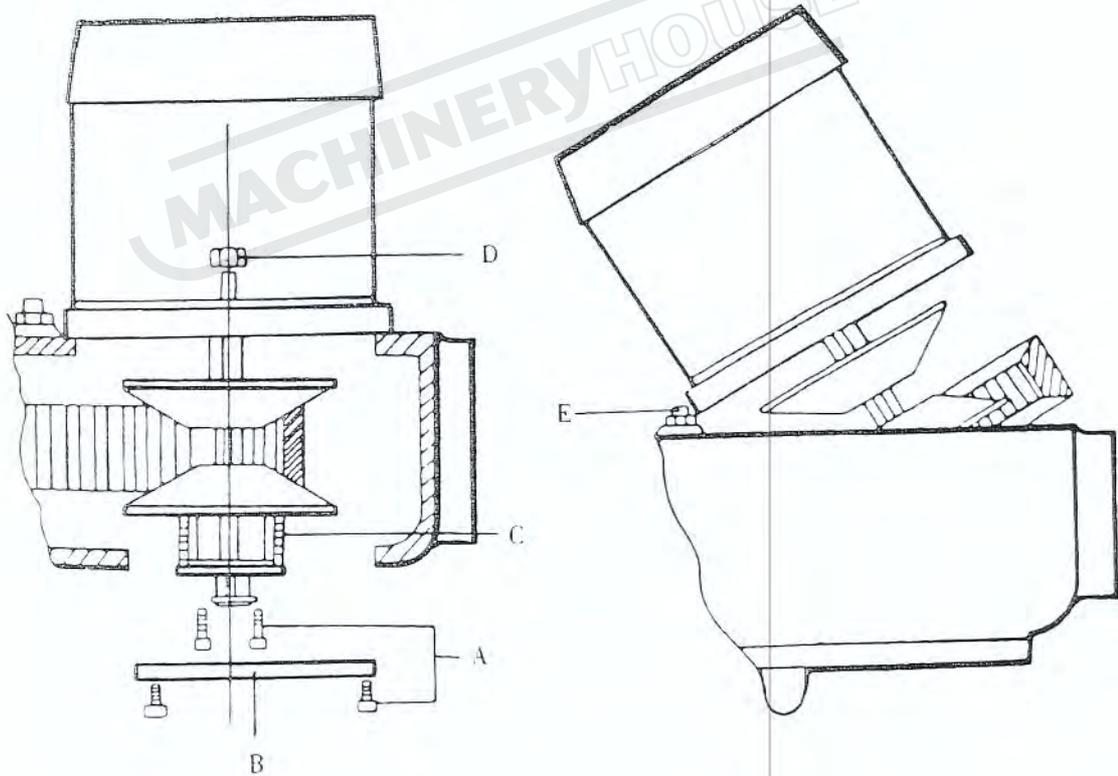

Figure 10 Removing the Motor (Side View)
REMOVING THE MOTOR(See Figure 10): Run the attachment to the bottom of either speed range and shut off the motor. This puts the vari -- drive belt in the best position for disassembly.
2. Remove the cover (#54 page 36)(B, Figure 10) at the lower end of motor shaft. Use two cover screws (# 55 page 36)(A) to fasten the spring (# 44 page 38)(C) on the lower end of motor shaft, to the lower motor vari-drive pulley (# 43 page 38). This will reduce the hazard of personal injury that is always present when a heavy spring is under compression. When the pulley, spring retainer(# 45 page 38) and spring are securely fastened as a single unit, crank the speed change handwheel(# 16 Figure 9) to top speed position.
3. Now remove the screws(# 9 page 38)(D) that fasten the motor to the belt housing the motor should be lifted slightly and pulled firmly away from the spindle and toward the rear of the belt housing. This will pull the Vari-drive belt(# 27 page 38) deeply into the spindle pulley(# 25 page 38), providing the slack needed to slip the belt over the motor pulley (# 34 page 38)
4. Now lift the motor high enough to rest the motor base GENTLY on the adjusting screw(# 16 page 38) (E) seen directly in front of the motor flange. The belt can now be slipped over the lower pulley and the motor removed from the housing